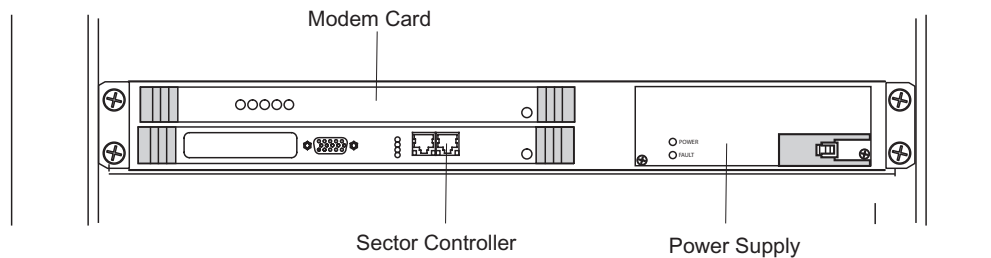

Figure 4.3 Card Layout
Figure 4.3 shows the locations of each card in the front of the chassis.
- vi Slide the card into the correct slot. Figure 4.3 shows the correct card layout. Use the guide rails to ensure the connectors are aligned.